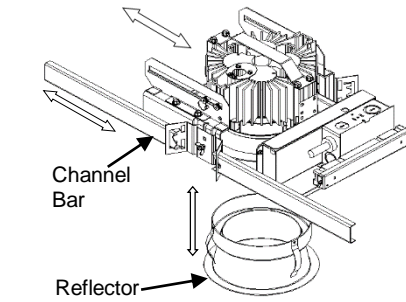

Figure 1
2. Position mounting frame neck through opening in ceiling. Adjust channel bars (shipped separately) to the correct spacing between T-bar. Secure channel bars to T-bar by means of wire ties, screws or as required per local code (see Figure 1 and 3). Recommended to secure fixture to structural ceiling utilizing support wires (provided by others).
6. Insure LED heat sink is in the forward locked position as shown in figure 1.